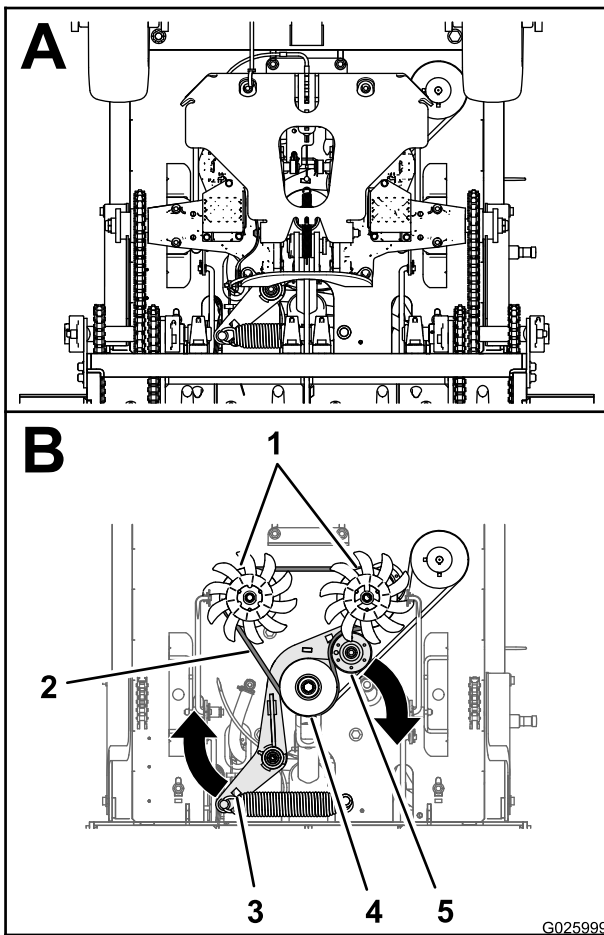

Figure 50
2. Insert a breaker bar into the socket of the belt-tension bracket and move the bracket outward and forward (Figure 50).
- Slip the transmission-drive belt of the engine, tensioner, and transmission pulleys (Figure 50).
- Route the new transmission-drive belt around the engine, tensioner, and transmission pulleys as shown in Figure 50
- Release the belt-tension bracket and allow the spring to tension the belt (Figure 50).